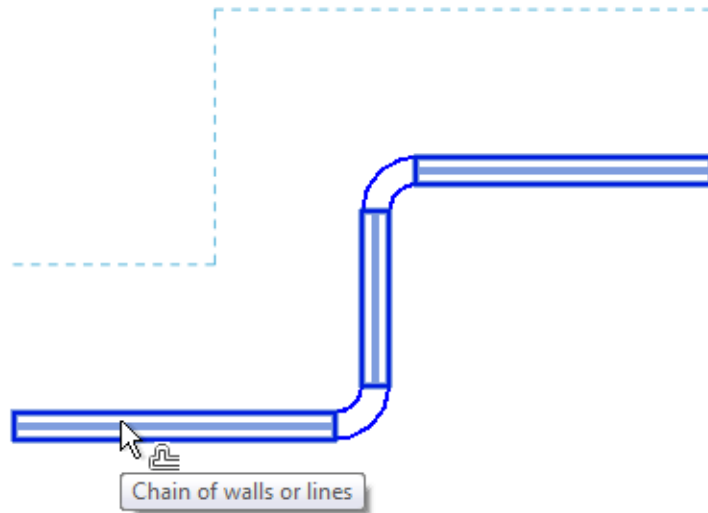

Figure 2–50
- With the **Numerical** option, you can select multiple connected elements for offsetting. Hover your cursor over one element and press <Tab> until the required elements are highlighted, as shown in Figure 2–50. Select the elements to offset them. This enables you to offset all of them at once.